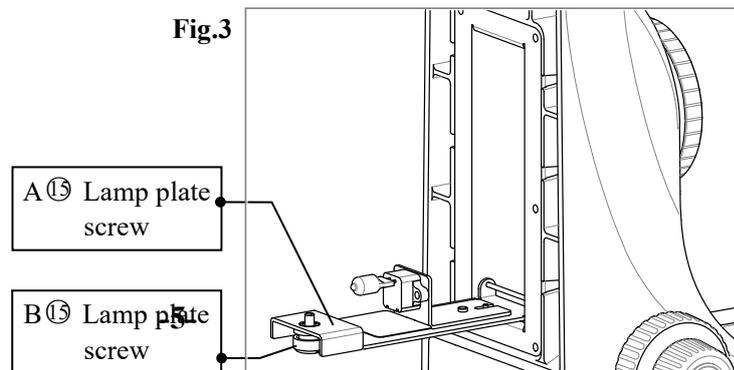

Fig.3
- Take down the base of microscope, Loose the screw B15, put out the lamp plate (Fig.3);